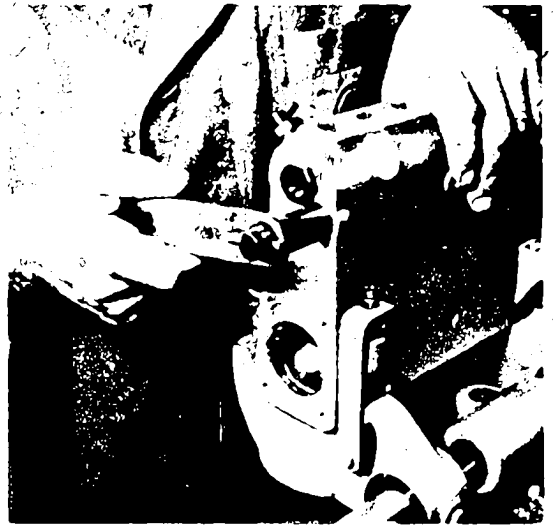

Fig 34 Unscrew adjusting screw of control-rod stop
12. If adjusting screw for control-rod stop is fitted, unscrew it with ring wrench EFEP 39 A (Fig. 34) taking care to apply the wrench correctly. If a control-rod stop-sleeve is fitted (65), unscrew it with stop sleeve wrench EF 8310 (size A) or EF 8288 (size B and Z); (Fig. 35).
13. Unscrew control-rod guide bush with thread but without slot (2) on pumps type A and B with extractor EFEP 259 and on